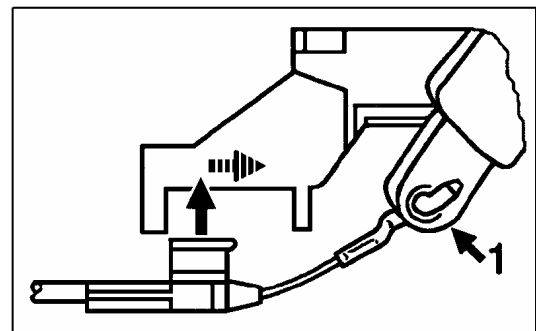

Figure 6
- 12 Thread bowden cable into the inner actuating mechanism from underneath (Fig. 6, arrow 1).
- 12.2 Thread the end piece into the support bracket of the inner actuating mechanism and push forward until it engages (Fig. 6).